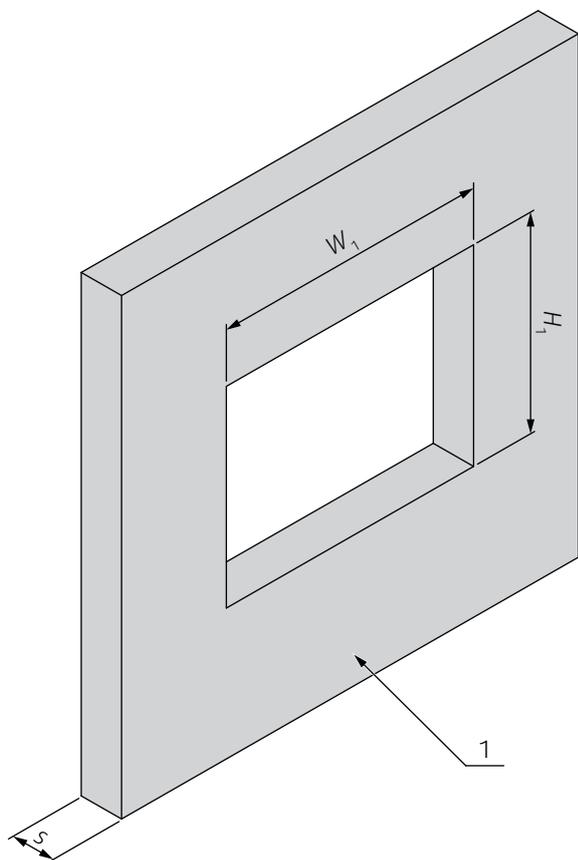
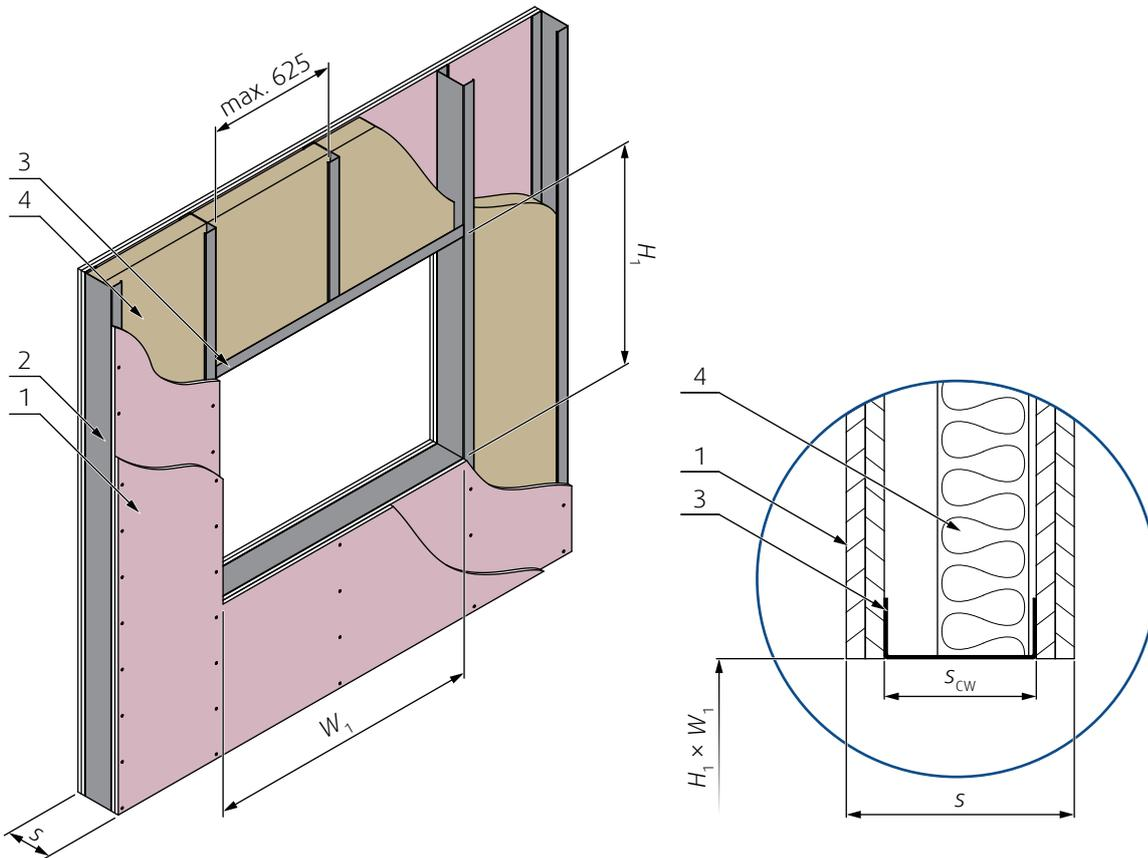
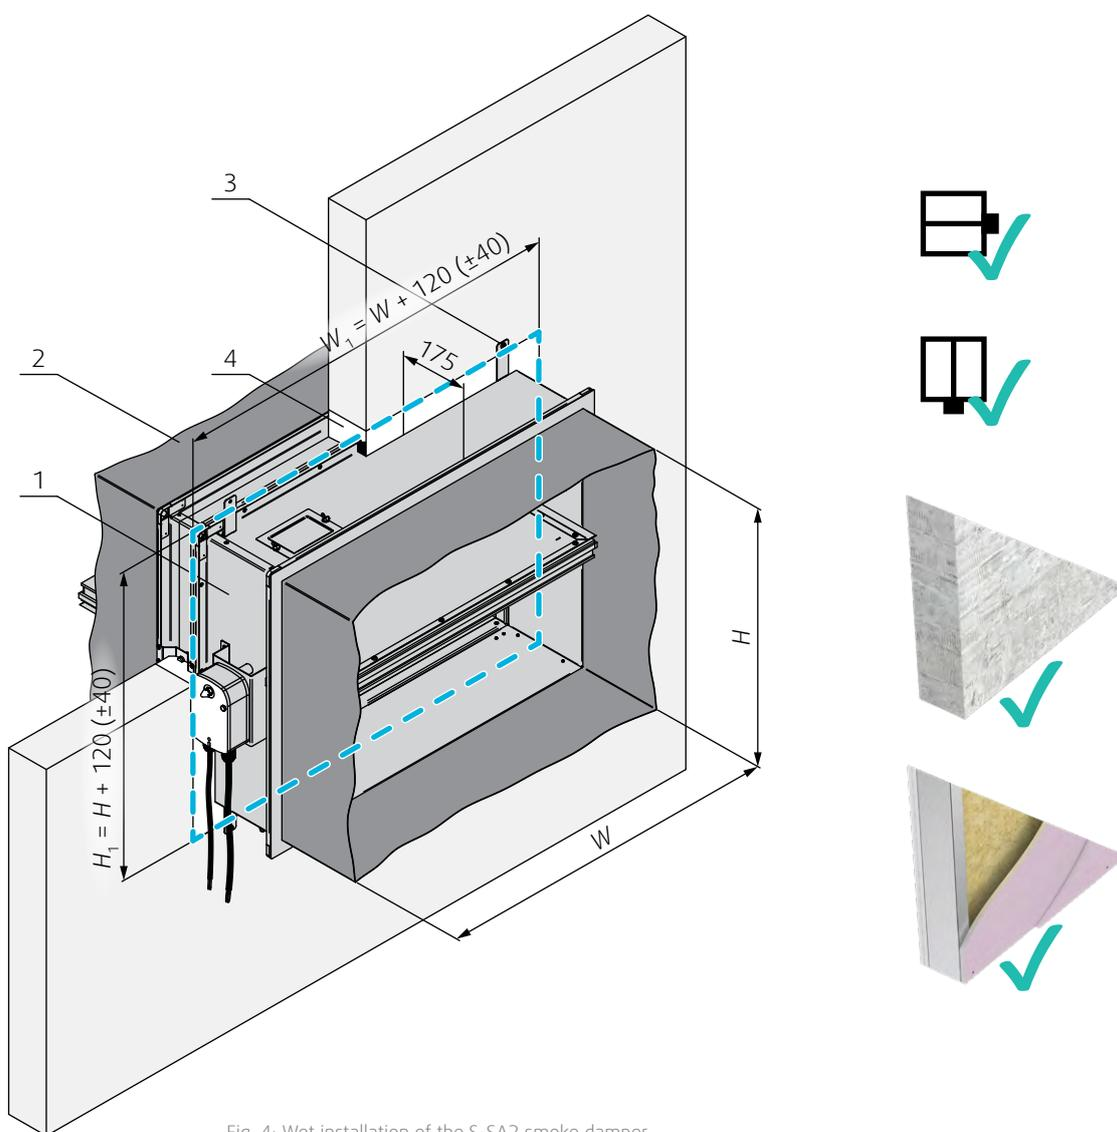

Fig. 1: Rigid wall/ceiling with a rectangular opening
Fig. 2: Flexible (plasterboard) wall with a rectangular opening and vertical cross-section (right)
Fig. 4: Wet installation of the S-SA2 smoke damper
1. The supporting construction opening must be prepared in a way depicted in the “Opening preparation” section (as per Fig. 1 – Fig. 2). Opening surfaces must be even and cleaned. The flexible wall opening must be reinforced as per the standards for plasterboard walls. The opening dimensions are driven by the nominal dimensions of the damper with added clearance. The opening will be made with dimensions W_1 and H_1 (↗ Fig. 4).
1. The supporting construction opening must be prepared in a way described in the "Opening Preparation for S-SA2 Installation" section (as per Fig. 1, Fig. 2). Opening surfaces must be even and cleaned. The flexible wall opening must be reinforced as per the standards for plasterboard walls.